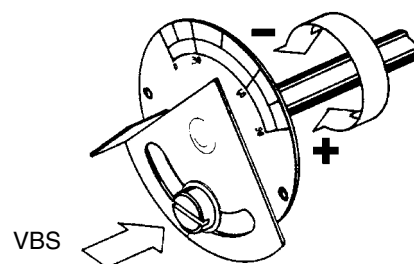

Fig. 28
- Slacken the screw VBS shown in Fig. 28 by means of a screwdriver; set the desired air flow rate by adjusting directly the damper.